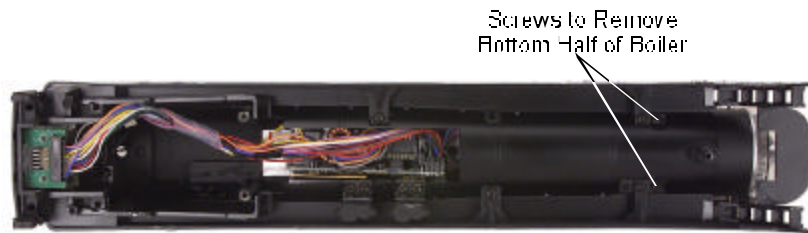

Figure 8. Screws to remove the bottom of the boiler..
2. Open the boiler by removing the screws shown in Fig. 8.